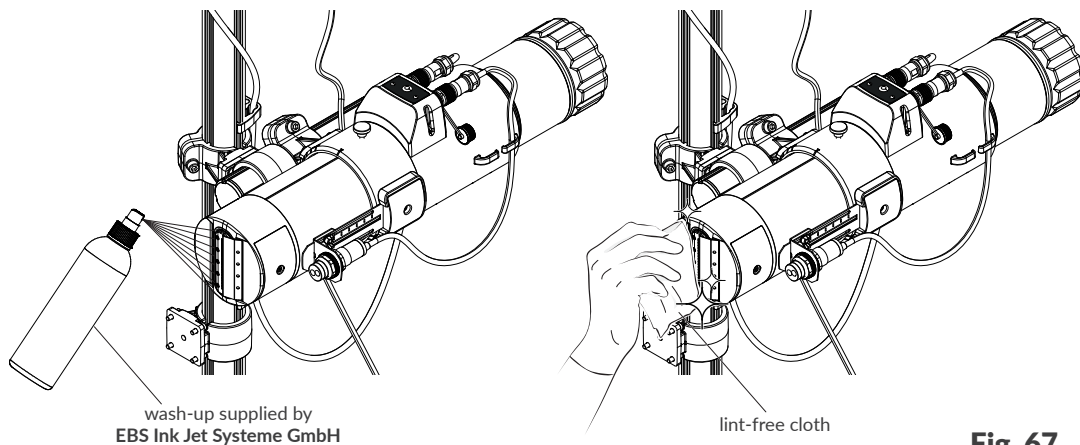

Fig. 67.
3. Spray wash-up on the nozzle plate (see Fig. 67).